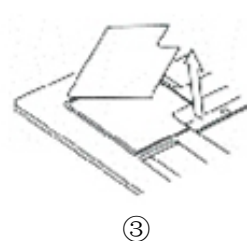

Fig 1 5 The preparation for installing the panel of Ceiling Cassette
2. Lift the grille up about 45°, take out the return grille from decorated panel . (refer to Fig 1 5 - ②)
3. Take out the cover at corner, draw it out . (Refer to the following Fig 1 5 - ③)